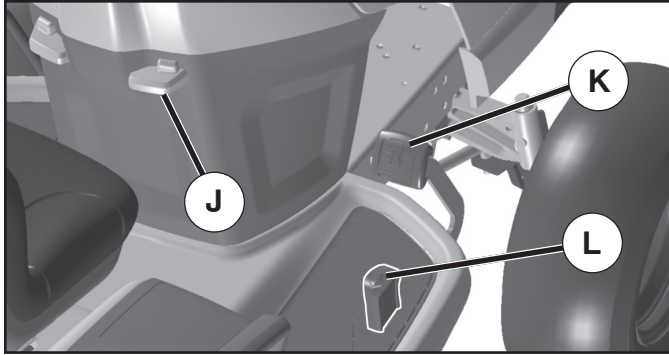

Fig. 21
TO MOVE FORWARD AND BACKWARD (See Fig. 21)
TO USE CRUISE CONTROL (J) (See Fig. 21)